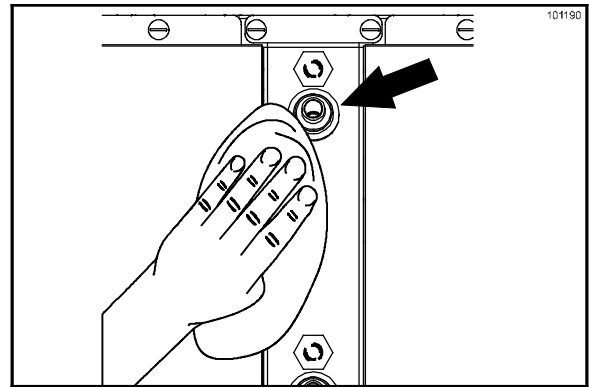

Figure 85
33. Using sanitizing solution and a clean, sanitized towel, clean the syrup fittings at the back of the cabinet to remove any dried-on residue. (See Figure 85.)